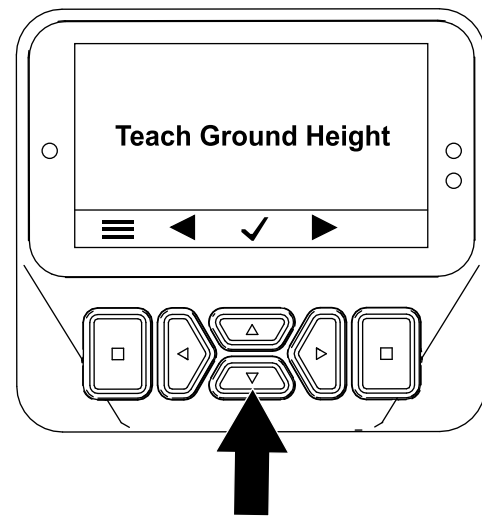

Figure 62
4. On the Teach Ground Height screen (Figure 62), then press either center button.